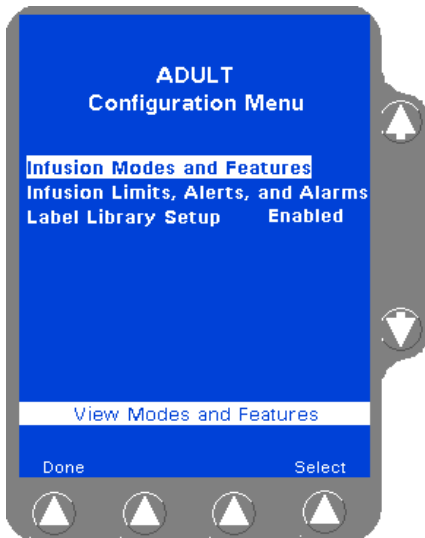

Figure 4-7 Configuration Screen Example
1. Turn the pump on, then press the **Change Personality** soft key. Use the $\uparrow\downarrow$ keys to highlight the desired PERSONALITY feature set, then press the **View Personality** soft key to view the Configuration menu for the selected PERSONALITY feature set (Figure 4-7).